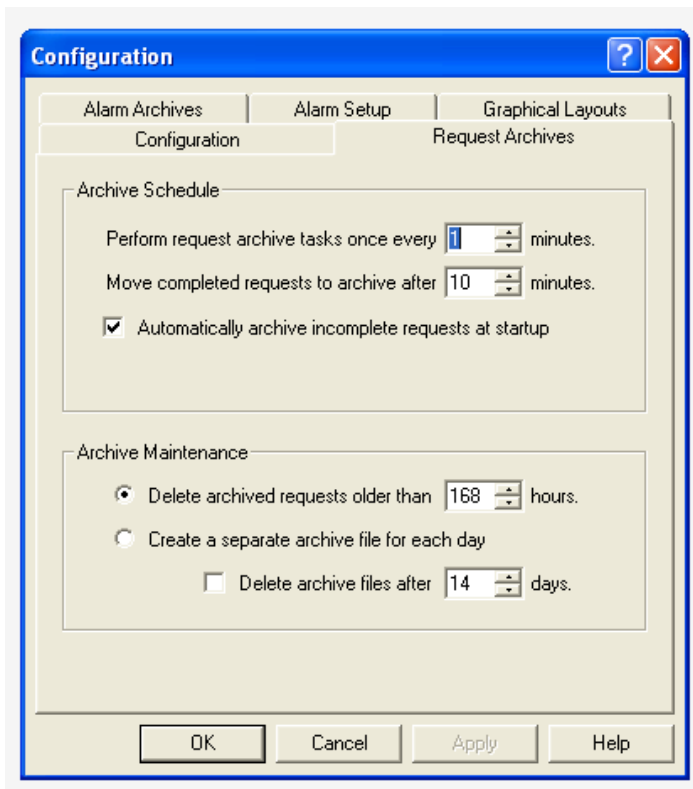

FIGURE 5. Request Archives Tab
The **Request Archives** tab, shown in Figure 5, is used set up how the request archives performs. Trunk Supervisor tracks the keys a keypad user presses to speak to other users over a trunk, which is referred to as a request. These requests are then archived in a file known as a request archive file. This tab is split into two (2) sections: